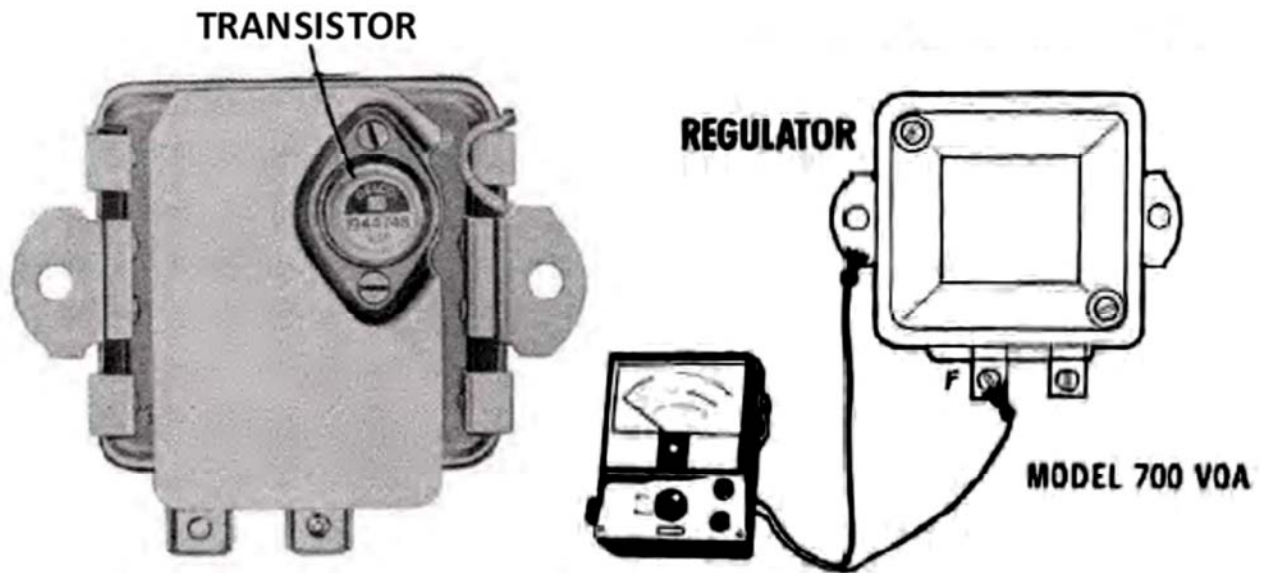

Figure 37
1. To check the transistor, connect the Model 700 VOA voltmeter from the regulator "F" terminal to ground (Fig. 37).